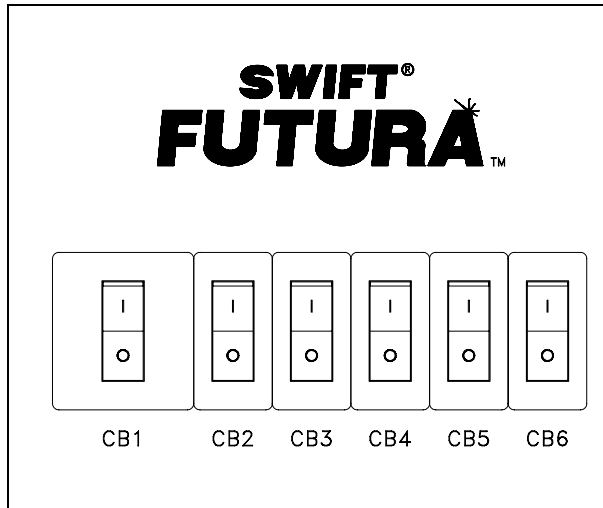

Figure 3-1
2. Verify all the circuit breakers on the front panel (located at the top of the controller) are in the off position. [See Figure 3-1.]